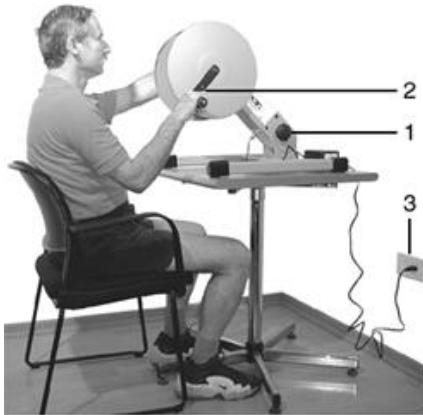

Figure 5
Step 1: Position the **APT-1K** on a level table top close to an electrical socket outlet (Figure 5).